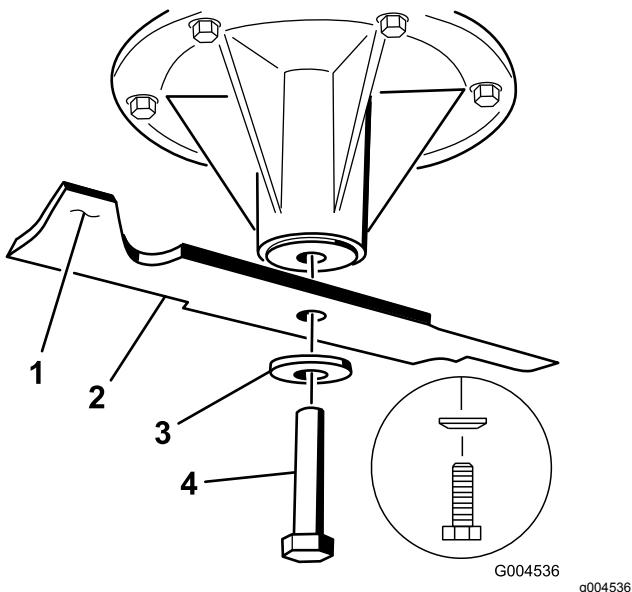

Figure 101
1. Install the blade onto the spindle shaft (Figure 101).
2. Install the curved washer and blade bolt (Figure 101).
- Note:** The curve of the washer must be installed toward the bolt head (Figure 101).